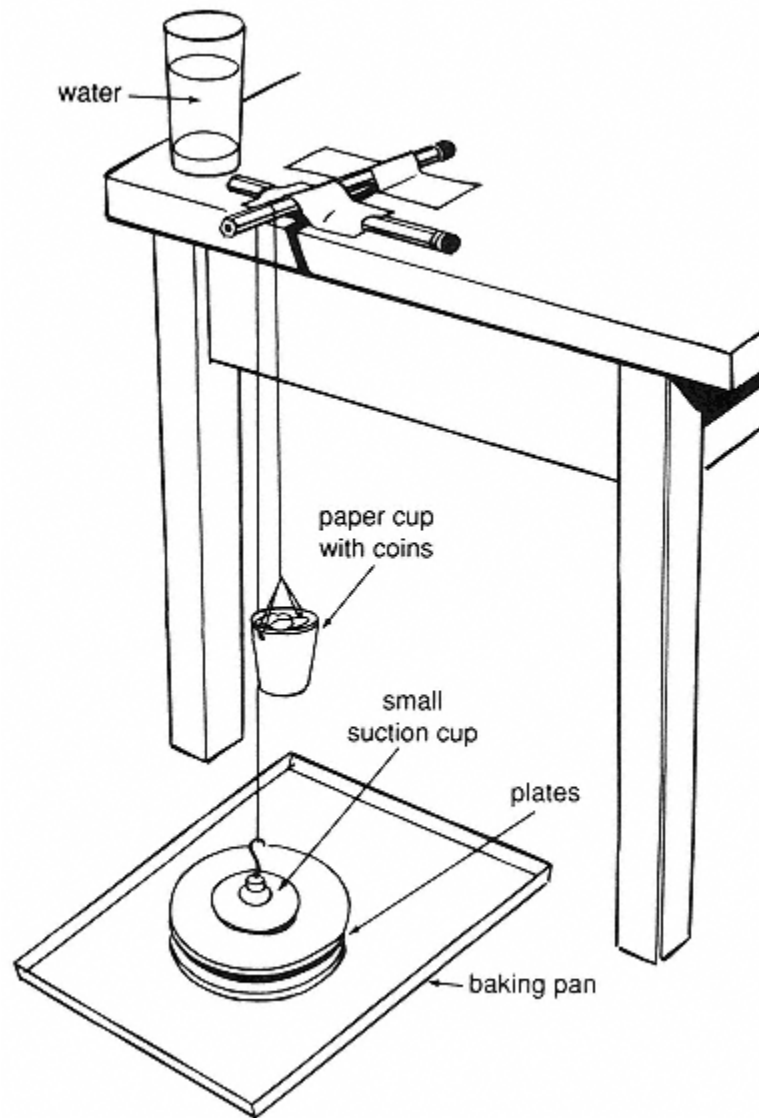

Figure 25.1
14. Add coins to the cup until the saucers are slightly separated (see Figure 25.1).